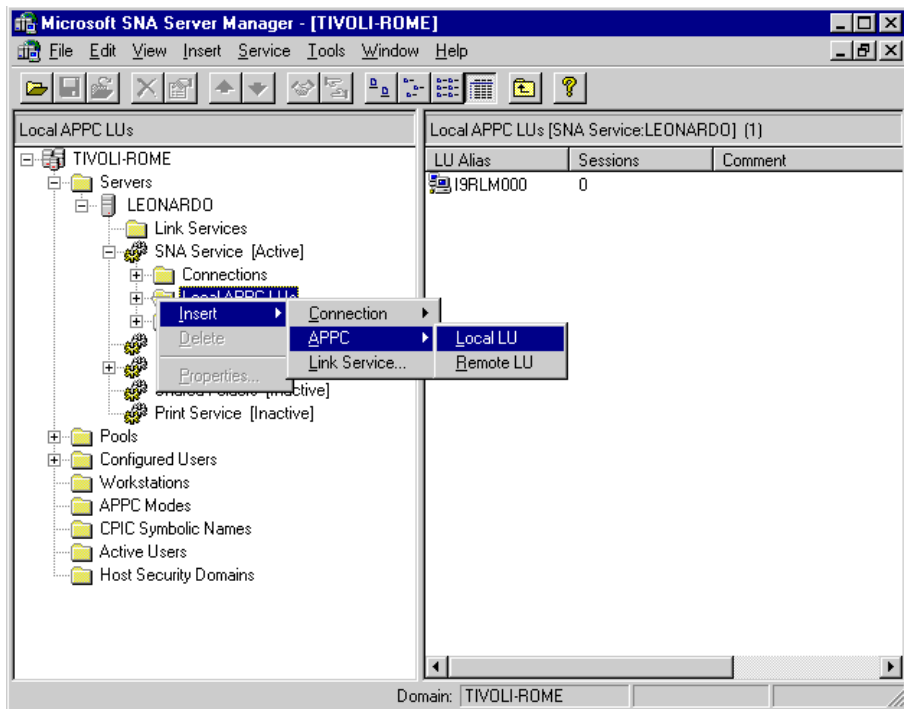

Figure 44. Selecting an LU name
- 2 Right-click **Local APPC LUs** and select **Insert ► APPC ► Local LU**, as shown in Figure 44 on page 122.